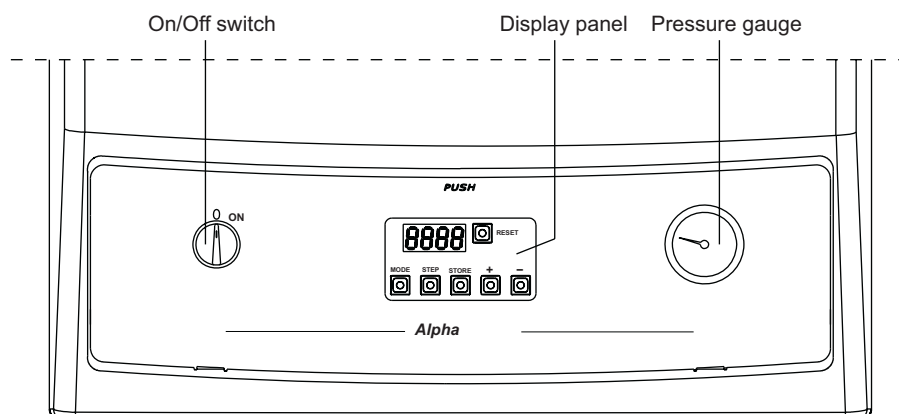

Fig. 24
5.3 BOILER CONTROLS - Fig. 24
5.4 INITIAL LIGHTING - Refer to Fig. 24
The boiler display panel (see Fig. 24, is composed of a 4-character display and 6 keys. By using these keys it is possible to adjust the boiler as it would be by using traditional selector switches and knobs.